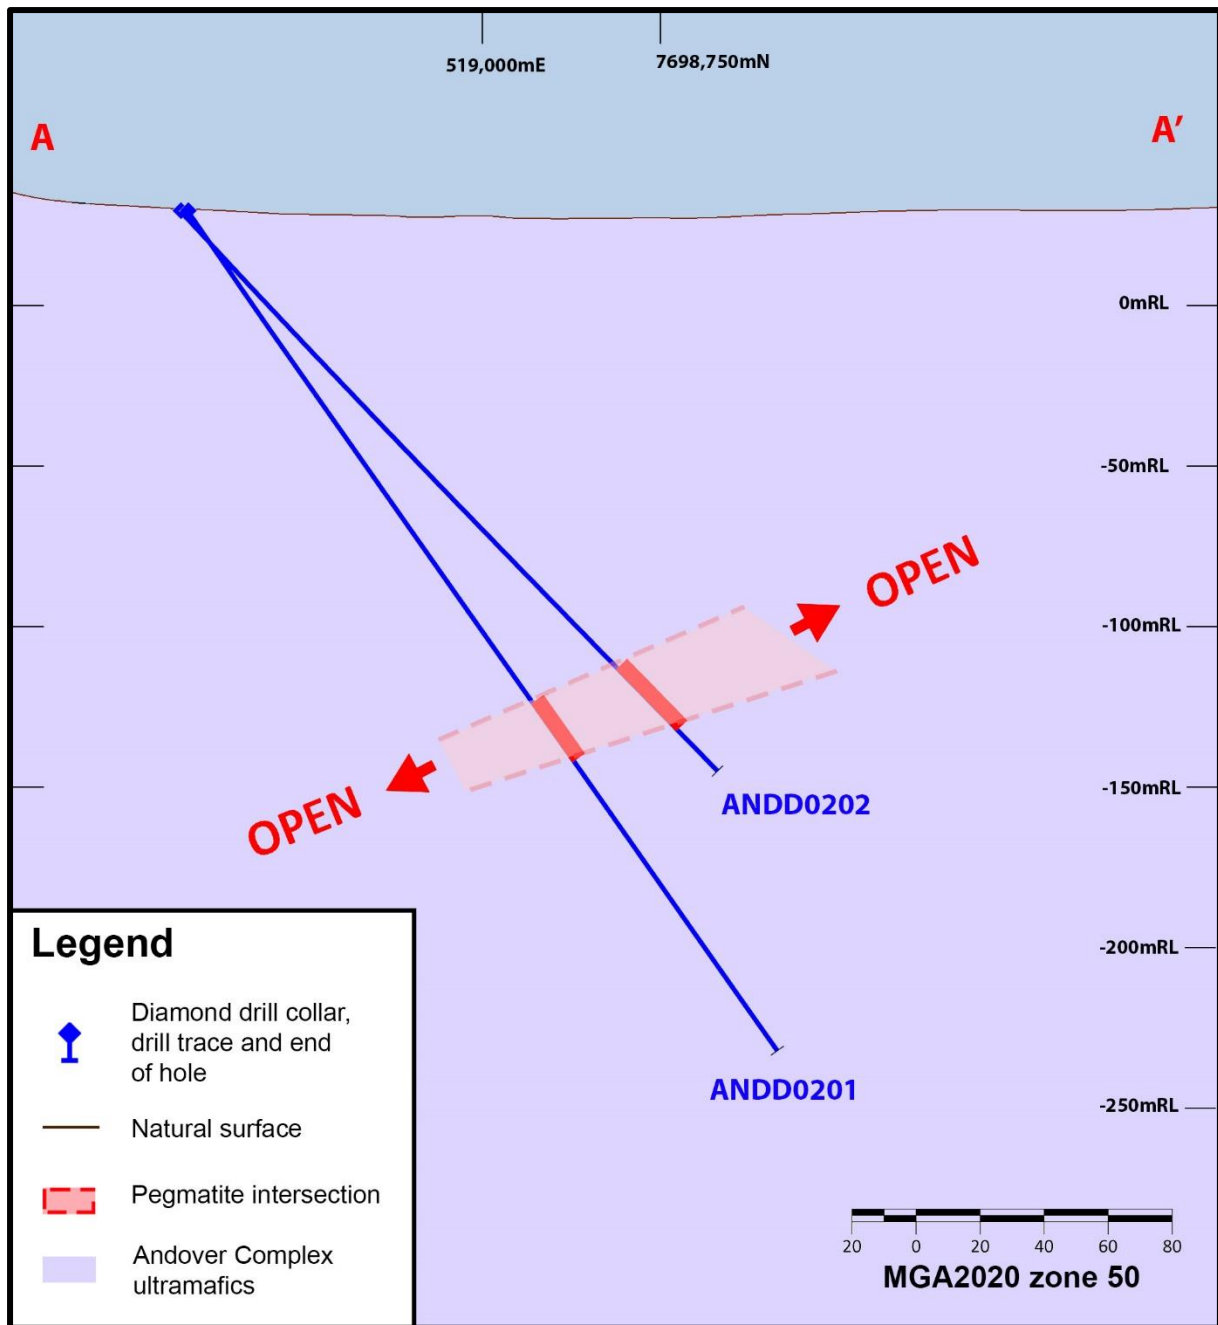

Figure 1: Cross section showing spodumene-bearing pegmatite intersections in drill holes ANDD0201 and ANDD0202
- **Pegmatites with visible spodumene intersected in first two lithium-focused drill holes (see Image 1 and Figure 1):**
The first drill hole (ANDD0201) intersected a 22m-wide pegmatite from 187.0m downhole (approximately 151m below surface). The second hole (ANDD0202), drilled to test the up-dip extension, intersected a 27m-wide pegmatite from 197.4m downhole (approximately 140m below surface), indicating that the pegmatite dips shallowly down to the north (see Figure 1). Spodumene has been visually identified within both pegmatite intersections (see Image 1).